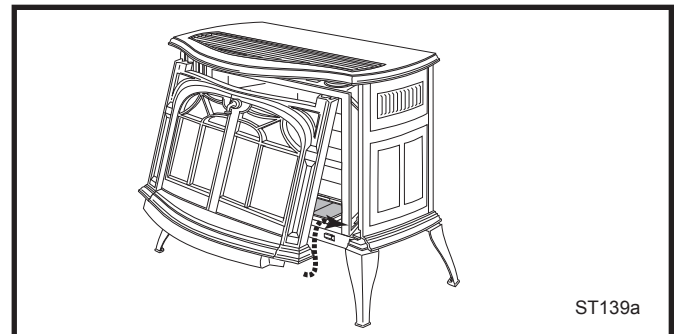

Fig. 26 Replace the front panel.
2. Replace the stove front by grasping it by the left and right edges. Lift it so that tabs on the back side of the top corners engage notches at the top forward corners of the stove sides. Then gently swing the bottom of the front panel to a vertical position, and lower it till prongs on its bottom left and right corners engage with notches cast into the tops of the forward legs. (Fig. 26) Test that the front is installed securely by grasping two of panel's vertical bars, and pulling the panel toward yourself. When the panel is in place properly you should not be able to pull the bottom of the front toward yourself without also lifting it.